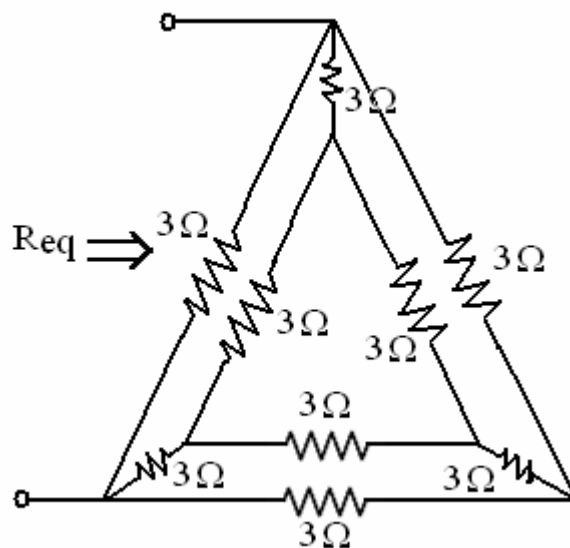

Figure 3
- 2.a) Find R_{eq} in the below circuit (shown in Figure 3).